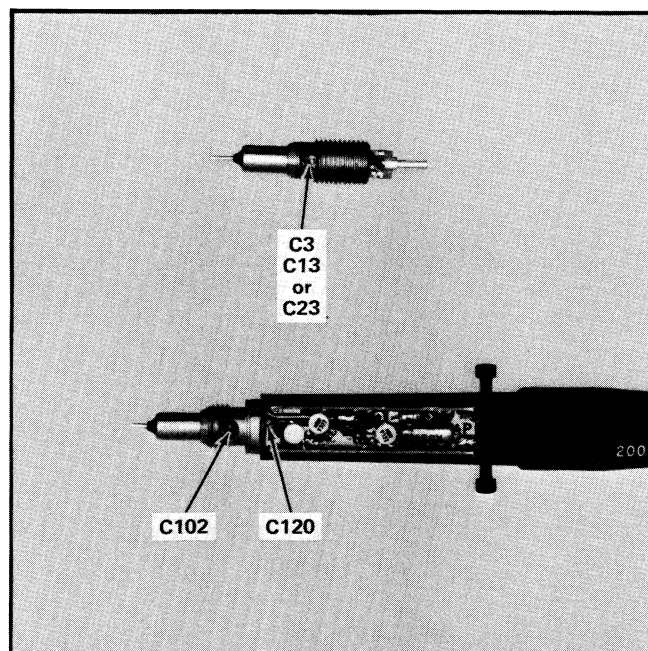

Fig. 5-3. Location of compensation adjustments in the probe amplifier and the attenuators.
2) Unscrew the probe barrel and install the Probe Calibration Fixture (Part No. 067-0624-00) as shown in Fig. 5-3. After the calibration fixture has been installed and the locking screws tightened, turn the probe power supply ON.
4) ADJUST—Using a small non-metallic probe (such as a toothpick) adjust C120 (Fig. 5-3) for minimum aberrations at the front corner of the pulse. The capacitor has small indentations along its edge so that it can be rotated with the small non-metallic probe.
into the Attenuator Compensation Calibration Fixture (Part No. 067-0623-00) so the compensating capacitor is visible through the adjustment hole (see Fig. 5-3).